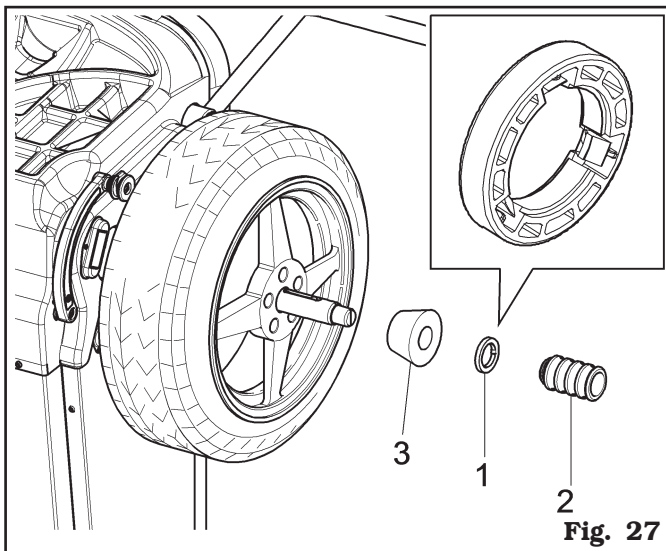

Fig. 27
- Fit the cone (**Fig. 27 ref. 3**) with the narrowest part turned towards the wheel.
- Fit the pressure ring (**Fig. 27 ref. 1**) in the bush (**Fig. 27 ref. 2**) and bring everything against the wheel.
THE PRESSURE RING (FIG. 27 REF. 1) MUST BE MOUNTED WITH THE DISCHARGE SIDE TOWARDS THE BUSH (FIG. 27 REF. 2).